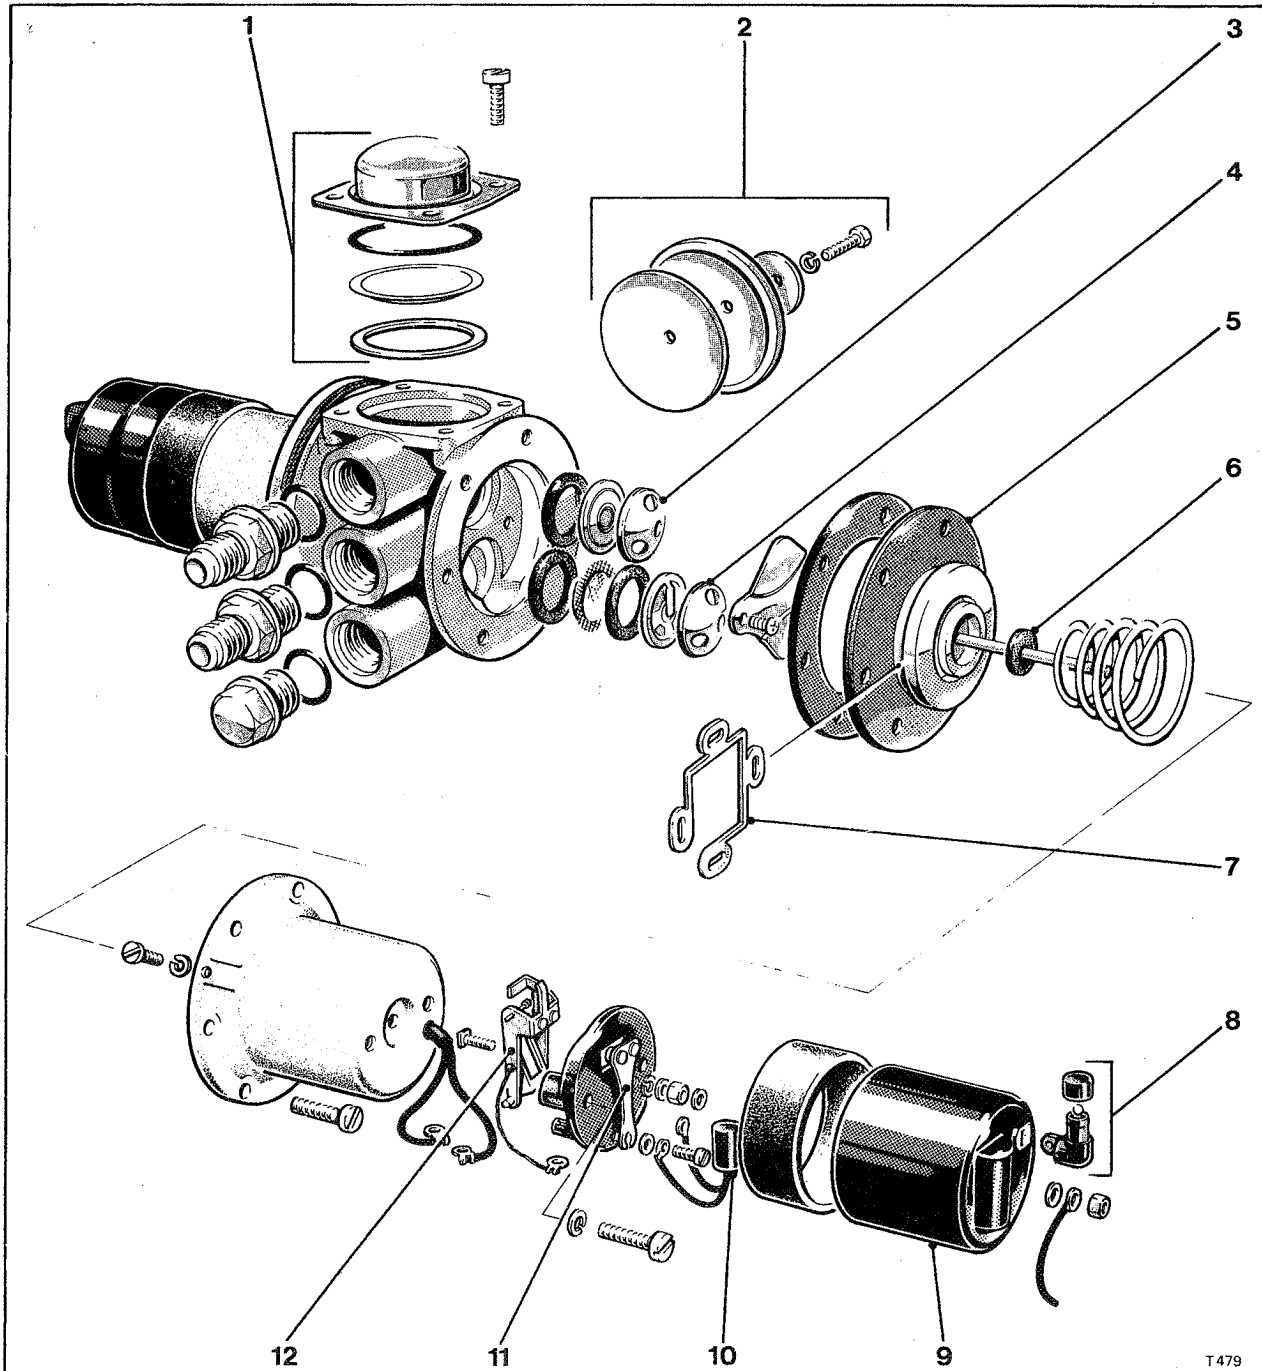

Fig. K14 S.U. fuel pumps assembly - Exploded
S.U. fuel pumps assembly - To dismantle (see Fig. K14)